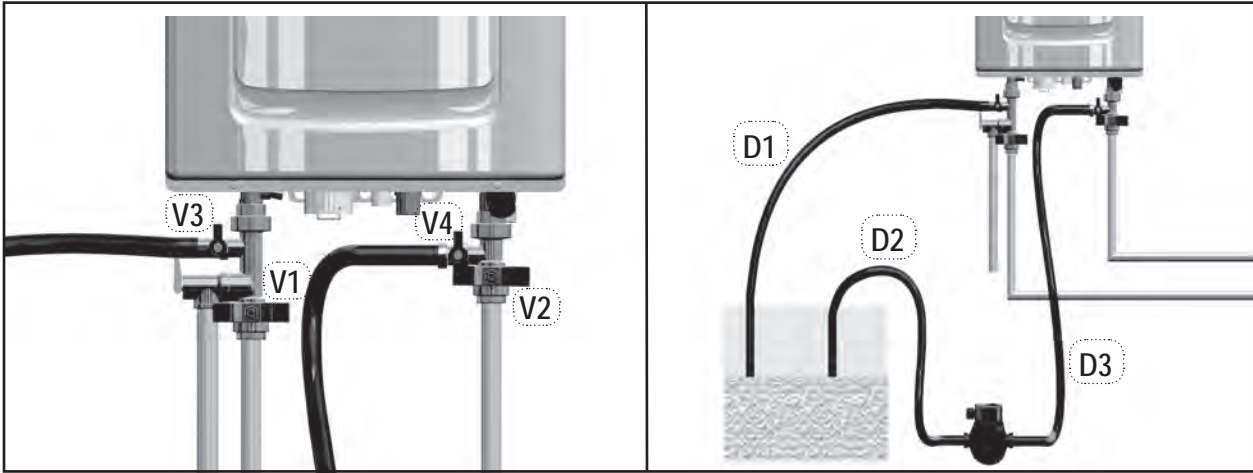

Figure 57 – Flushing the Water Heater
2. Close the shutoff valves on both hot water outlet and cold water inlet lines (V1 and V2). See Figure 57.
3. Connect one hose (D1, Figure 57) to the valve (V3) and place the free end in a bucket. Connect one of the hoses (D3) to the circulation pump outlet and the cold water inlet line to valve V4. Connect the other hose (D2) to the circulation pump inlet and place the free end in the bucket.